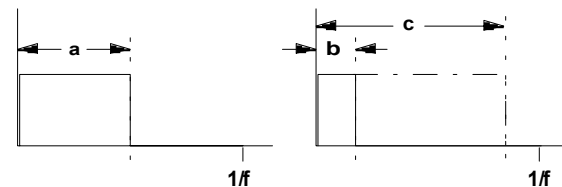

Fig. 2: Rectangle waves with different pulse widths
The VCO produces a square / rectangle wave at output ⑩. You can alter its **pulse width** (see Fig. 2) by hand or by voltage control (**pulse width modulation** or **PWM** for short).
The further the pulse width deviates from 50% (see Fig. 2, b and c), the weaker the lower harmonics become, and the more the sound gets thin and nasal.
⑤ PW
Use control ⑤ to adjust the **pulse width** of the rectangle wave which is output at socket ⑩ (see fig. 2 in chapter 3.1).
⑥ PCV